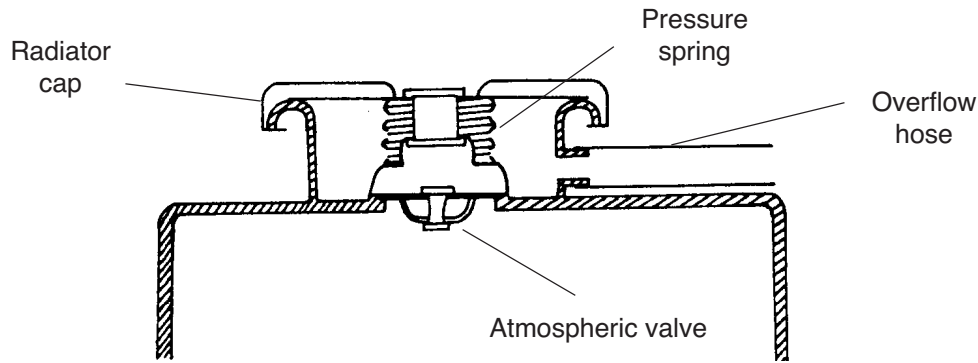

Fig 22 A radiator cap
- the vacuum valve. (As shown above in fig 22.)